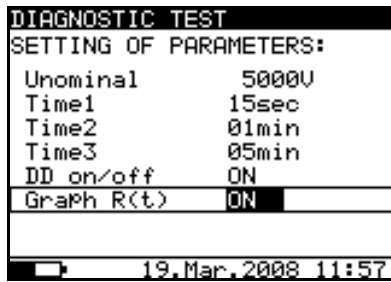

Fig. 27: Setting parameters
3. Press again the **SELECT** key to enter in the setup parameters section. The screen of Fig. 27 is shown by the meter
6. To activate the graphical screen the parameter Graph R(t) should be ON and the Timer must be activated (see Fig. 27). The time duration of graphical function is correspondent to the value of set Time3